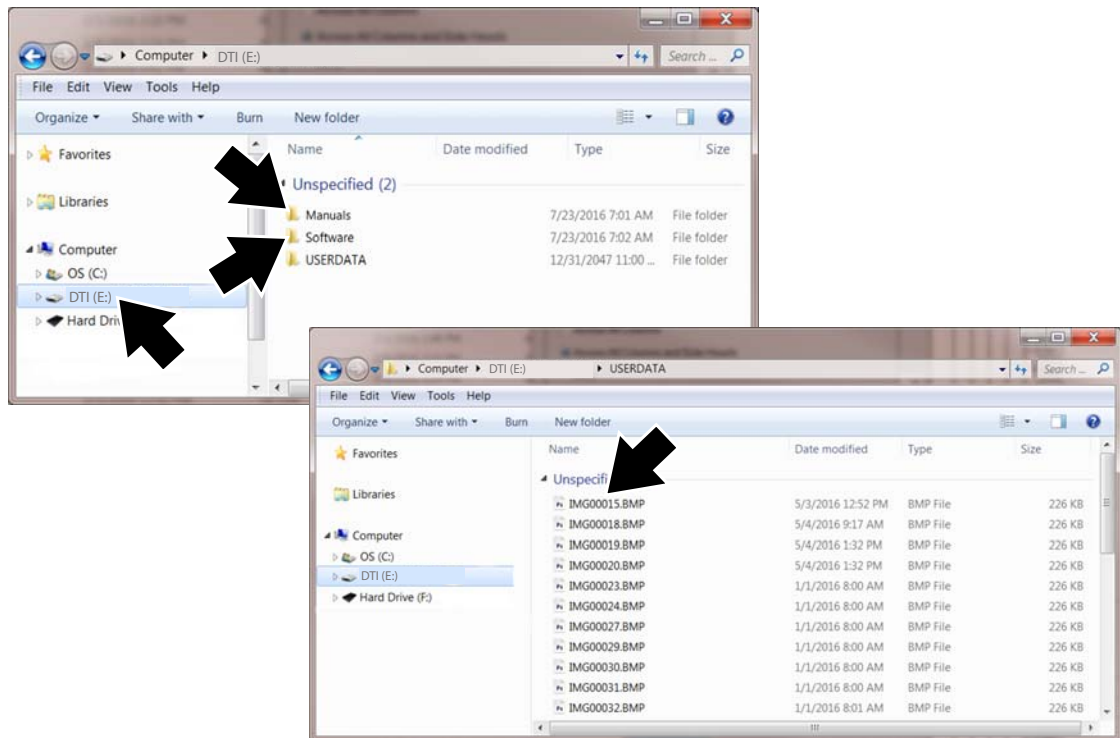

Figure 3-10 Typical PC screens
4. The Thermal Imager will be recognized by your PC as an external storage device (e.g. DTI (E:), DTI (H:), etc.) (Figure 3-10).
5. Using the standard Windows applications on your PC (e.g. Windows Explorer or Computer), select your saved images from the “**USERDATA**” folder, or select the user manual file from the “**Manuals**” folder on the Thermal Imager microSD card (Figure 3-10).